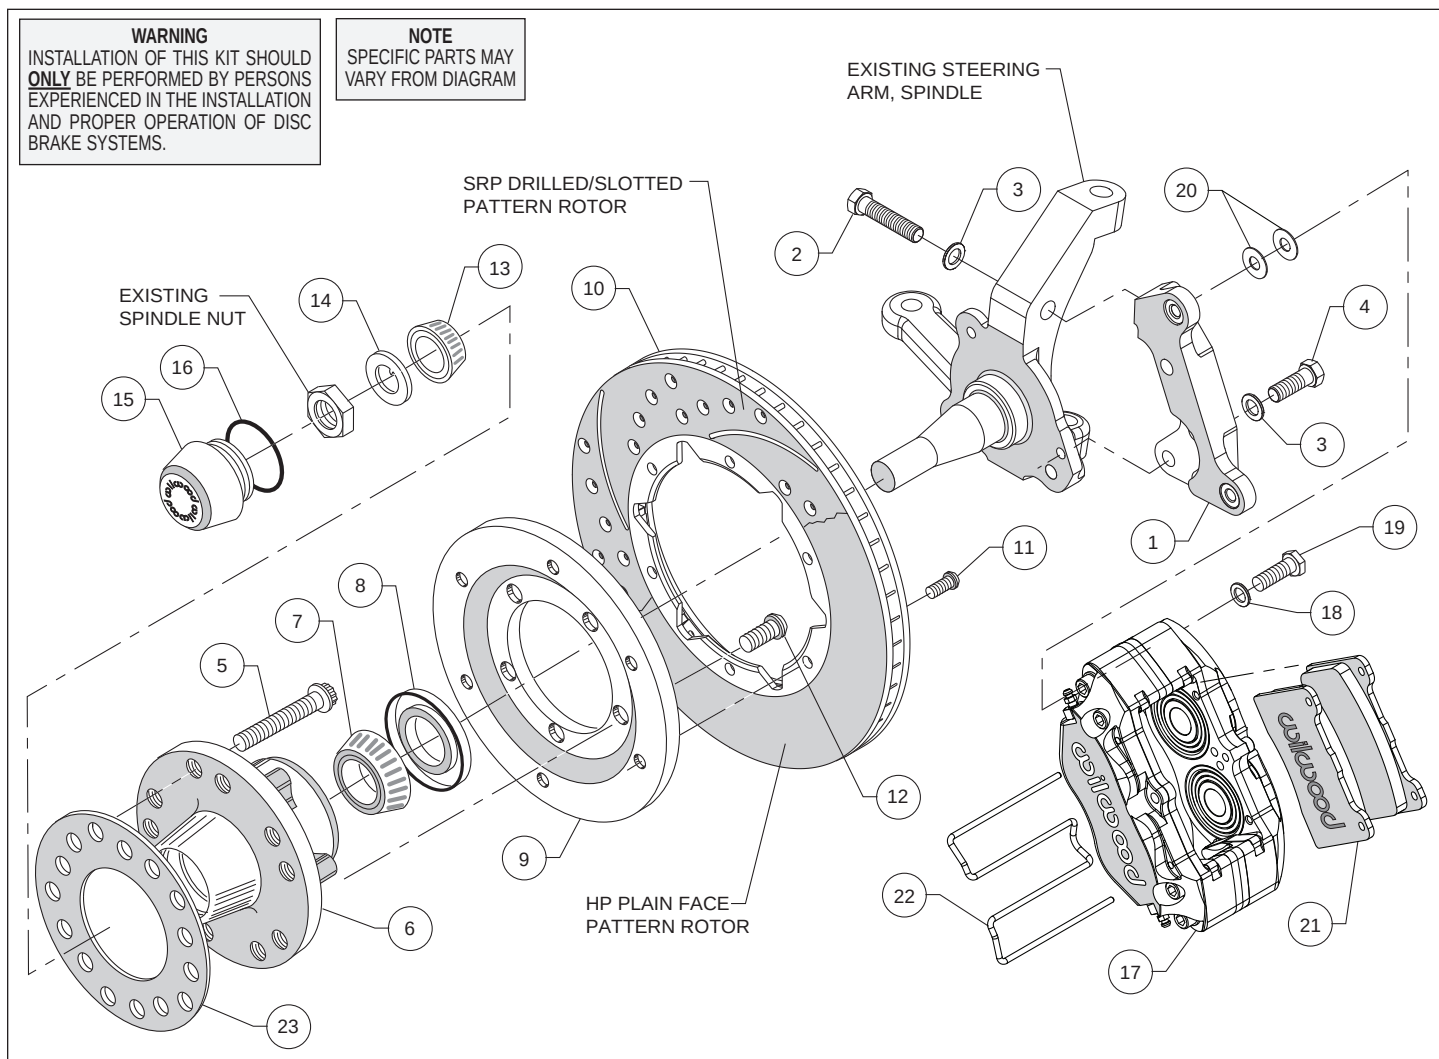
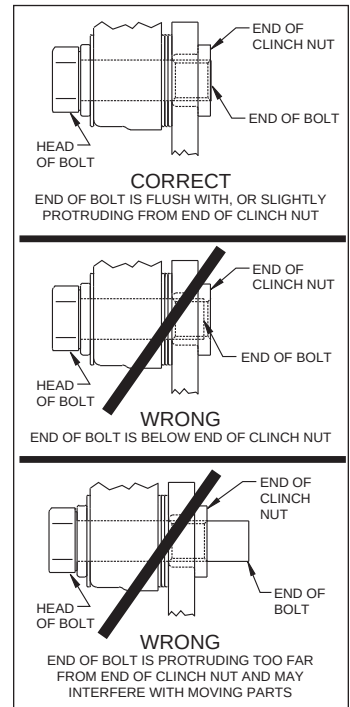

Figure 1. Typical Installation Configuration
Figure 3. Clinch Nut Engagement Diagram
Assembly Instructions (numbers in parenthesis refer to the parts list, on the preceding page and Figure 1): **CAUTION:** All mounting bolts must fully engage clinch nuts. Be sure to check that all bolts are either flush or protruding through flanged side of clinch nut after shimming, Figure 3.
- Align caliper mounting bracket (1) with the corresponding holes on the spindle. Attach using bolts (2 and 4) and washers (3) as shown in Figure 1 and Photo 1. Temporarily tighten the mounting bolts. Ensure that the flanged heads of the clinch nuts in the bracket are facing outboard, Photo 1. **NOTE:** The bracket must fit squarely against the mounting points on the spindle. Inspect for interference from casting irregularities, machining ridges, burrs, etc. Remove bolts one at a time, apply red *Loctite*® 271 to threads and torque to 47 ft-lbs.
- Install the grease seal (8) by pressing into the backside of the hub (6), flush with the end of the hub, Photo 3.
- Orient the rotor (10) and the rotor adapter (9) as shown in Figure 1 and Photo 4. Attach the rotor to the adapter using bolts (11). Using an alternating sequence, apply red *Loctite*® 271 to the threads, and torque to 25 ft-lb.
- Mount the adapter/rotor assembly (9/10) to the hub (6) using bolts (12), as shown in Figure 1 and Photo 5. Using an alternating sequence, apply red *Loctite*® 271 to the threads, and torque to 55 ft-lb.
- NOTE:** Please reference the caution statement at the beginning of the assembly instructions. Mount the caliper (17) onto the caliper mounting bracket (1) using bolts (19) and washers (18), as shown in Figure 1. Initially place two .035" thick shims (20) on each bolt between the caliper and the bracket, Photo 8. Temporarily tighten the mounting bolts and view the rotor (10) through the top opening of the caliper. The rotor should be centered in the caliper, Photo 9. If not, adjust by adding or subtracting shims between the bracket and the caliper. Always use the same amount of shims on each of the two mounting bolts. **NOTE:** The end of each bolt must be flush with or slightly protruding from the head of the clinch nut, as shown in Figure 3. If necessary place spare shims between washer (18) and caliper mounting ear to achieve the proper clinch nut engagement. Once the caliper alignment and clinch nut engagement are correct, remove the bolts one at a time, apply red Loctite® 271 to bolt threads, and torque to 40 ft-lb.